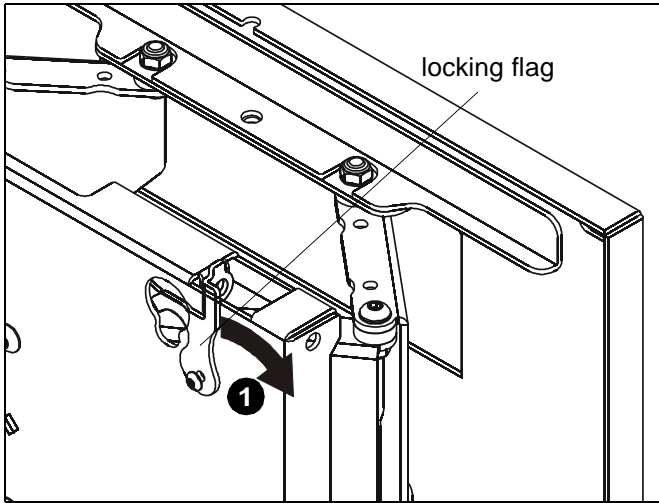

Figure 2
1. Make sure locking flag on faceplate is in the open position. (See Figure 2)